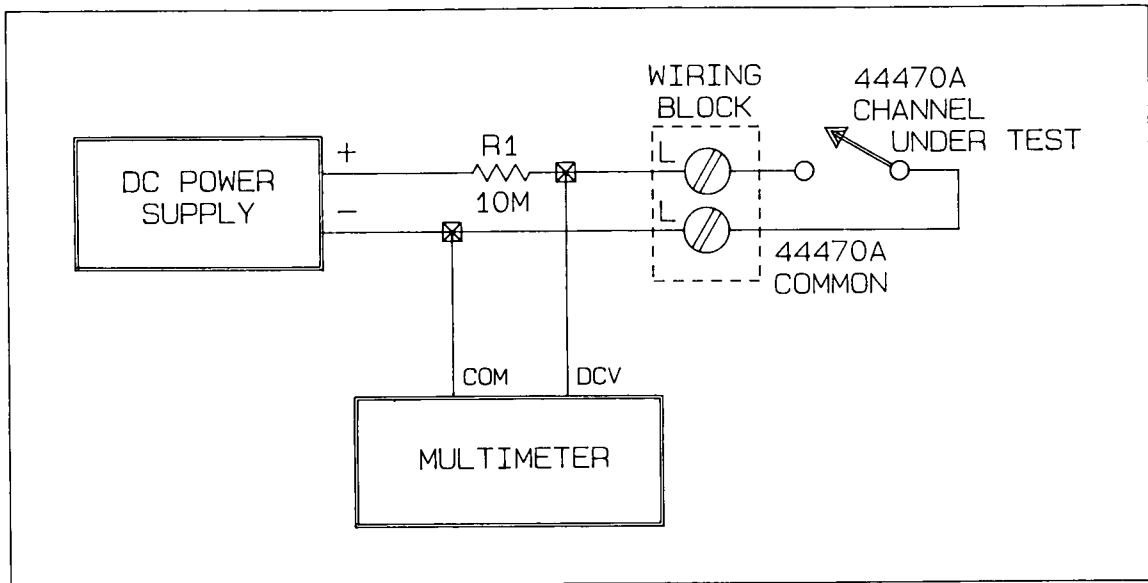

Figure 8-5 Channel To Common DC Isolation Test
7. Connect the common low line and the low line of the channel under test (channel 00 to start) into the test circuit as shown in Figure 8-5. Record the multimeter's dc voltage reading for this channel. This reading will be referred to as V3.